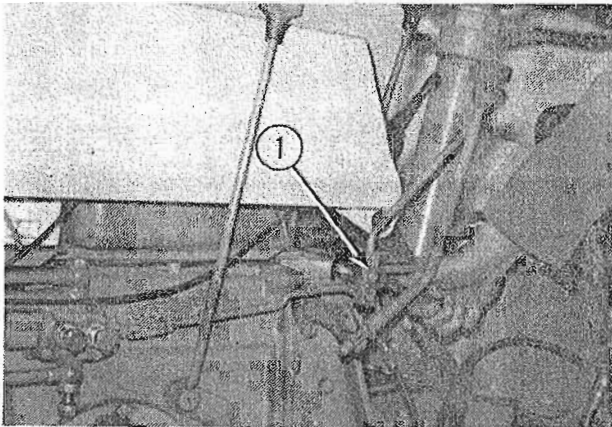

FIG. 4
(5) Hydraulic lift lever. (1, Fig. 4)